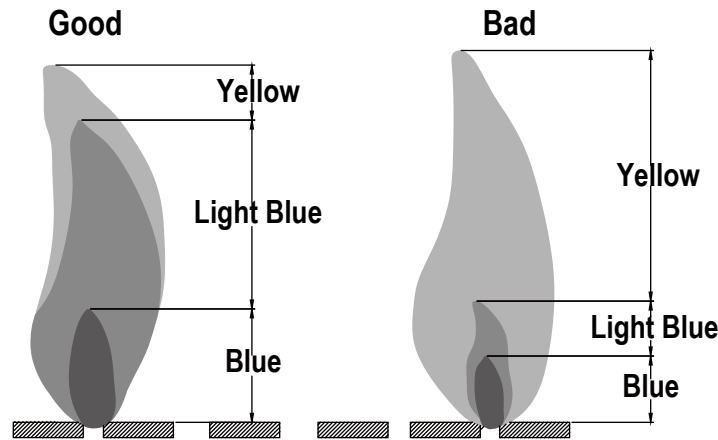

Figure 25
**Observe Flame Height When Lit:** The burner will display blue and yellow flames. These flames should be a blue / yellow color between 1~2 in. height (see Figure 25). These flames should not be yellow or produce thick smoke. This would indicate an obstruction of airflow through the burners. The flames should be blue with straight yellow tops.